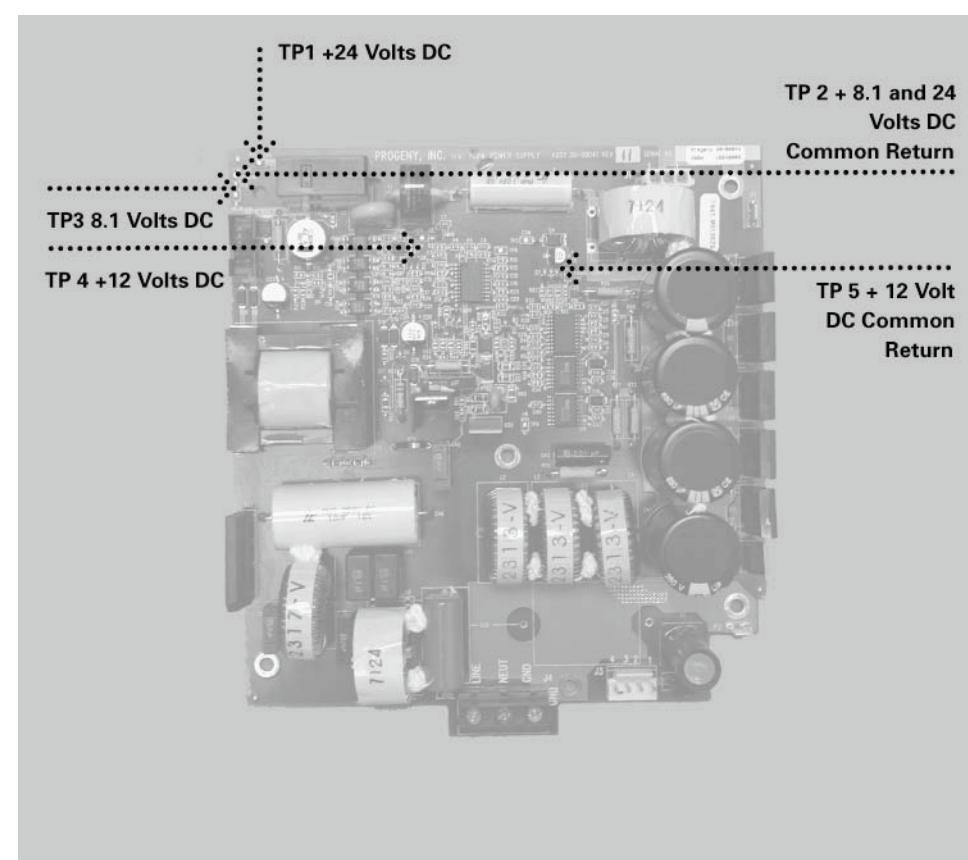

Figure 53
2. On the Power Supply Board, use TP2 as a common test point to check TP1 +24 volts DC and TP3 8.1 volts DC. Then use TP5 as the common return to check TP4 for the presence of +12 volts DC, as shown in **Figure 53**. Should any of these voltages not be present, replace the Power Supply Board. If these voltages are correct, next check voltages on the Logic Board.